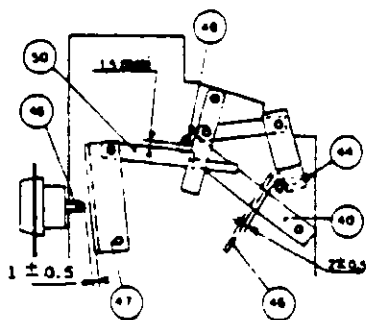

Fig. 22
- A. Adjustment (Fig. 22). Place breaker in tripped position with closing springs fully charged. Adjust screw (44) to obtain 4 ± 0.5 mm (0.158 ± 0.020 inch) clearance between lever (45) and end of screw (44). Adjust screw (46) on trip button for 1.0 ± 0.5 mm (0.04 ± 0.020 inch) clearance between strip (47) and screw end (46).